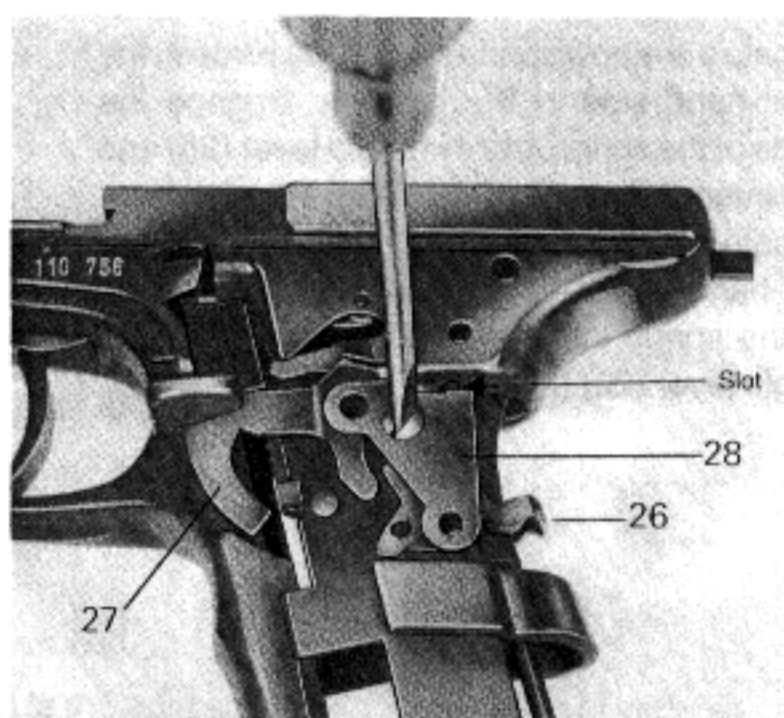
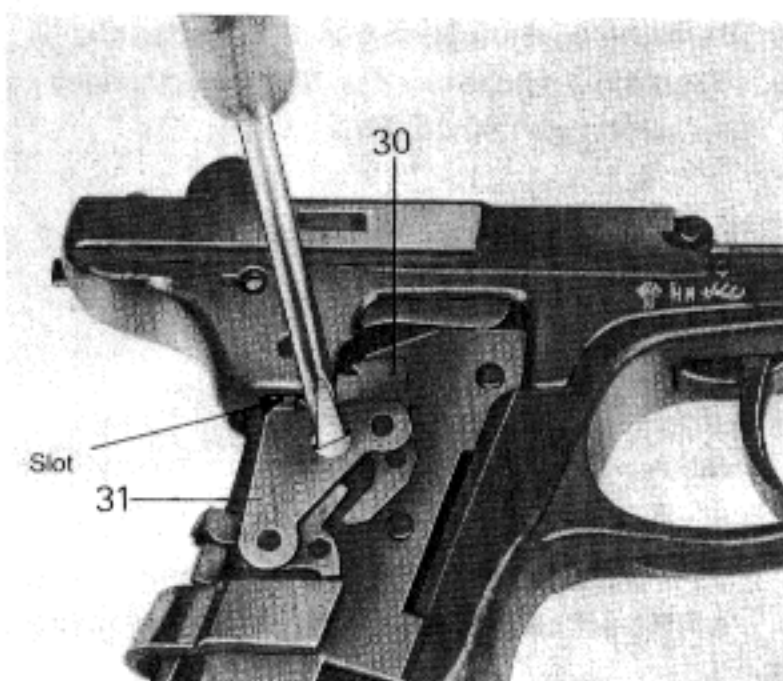

Fig. 46
Fig. 47
- Mount the angle lever (26), cocking lever (27) and the left-hand bearing plate (28) onto the receiver and attach the bearing plate to the **left-hand side of the receiver** with counter-sunk screws (29) (Fig. 46).
When inserting the cocking lever, press catch (2) and the arm of the safety latch (16) slightly upwards. Engage the short nose of the bearing plate into the slot provided in the receiver (see arrow, Fig. 46), making certain that the pin on the carrier also locates in the drill hole in the angle lever.
- When inserting the intermediate lever (30), push the pull bar (18) slightly upwards and locate it on the pivot in the receiver.
- Introduce the short nose of the right-hand bearing plate (31) into the slot on the other side of the receiver (see arrow, Fig. 47) and one pin into the drill hole in the angle lever.
- Attach the bearing plate with countersunk screw (29) (Fig. 47).